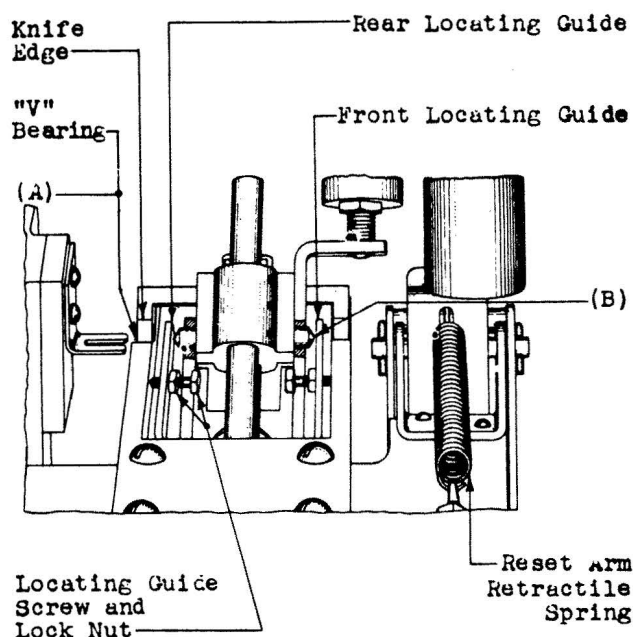

Fig. 5 - Pendulum Knife Edges and Locating Guides
- (a) Fig. 5 (A) - The "V" bearings and knife edges shall be free from all foreign matter.
2.06 Location of Pendulum - Fig. 5 (B): There shall be play between the pendulum and the front and the rear locating guides but this play shall not exceed .004" and the ends of the knife edges shall not extend beyond the ends of the bearings with the end play taken up in either direction. Use the No. 74D gauge.